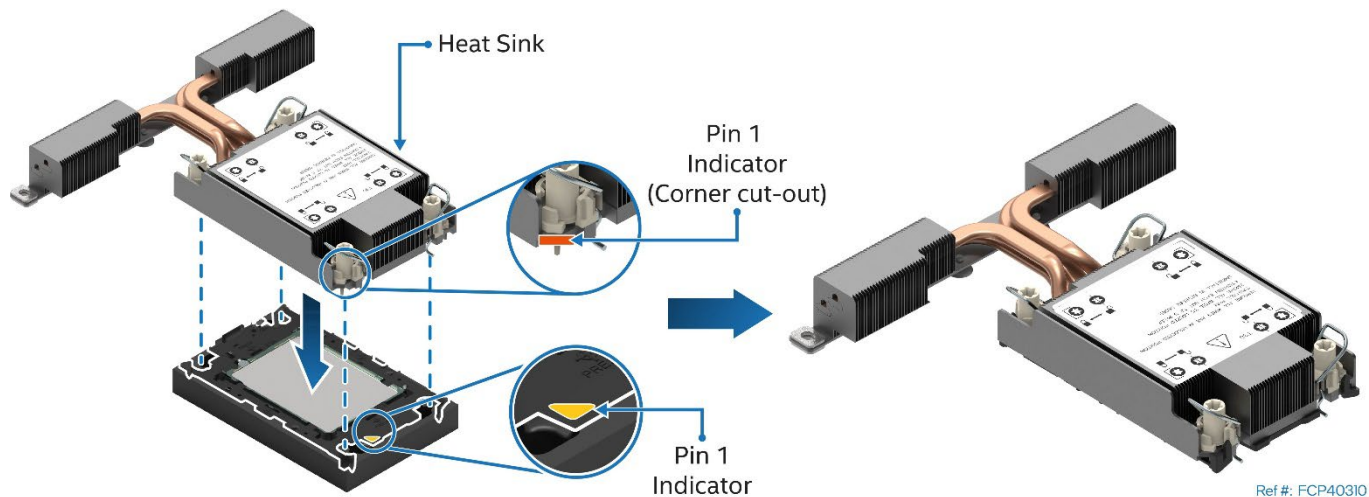

Figure 85. Pin 1 Indicator of Processor Carrier Clip
9. Align the Pin 1 indicator of the processor carrier clip with the corner cut-out on the heat sink (See Figure 85).